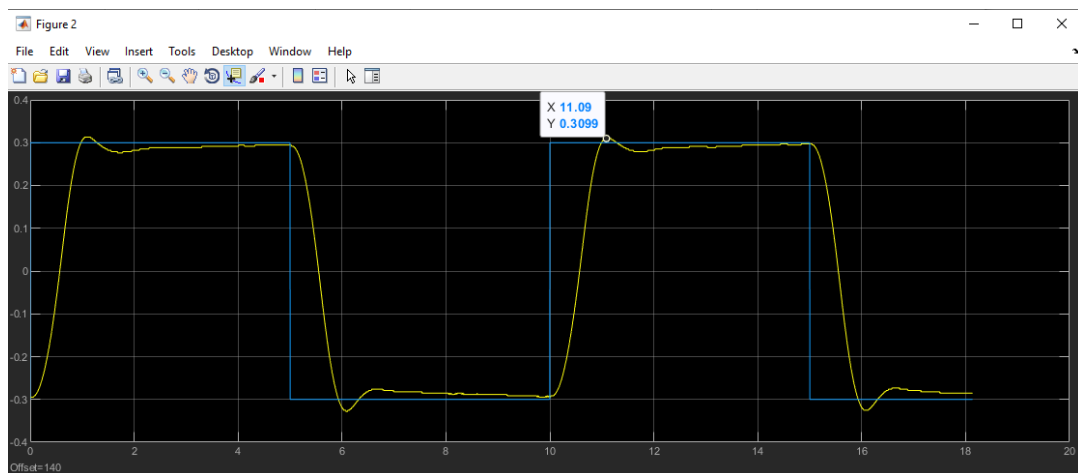

Figure 2.5: Tuned step response
1. The response should now approach the commanded value quickly and settle in a short time. However even with a large proportional gain, the final position of the Aero still differs from the command value. To combat this steady-state error, add an integrator with an integral gain K_i in parallel with the other two gains as shown in Figure 2.5.